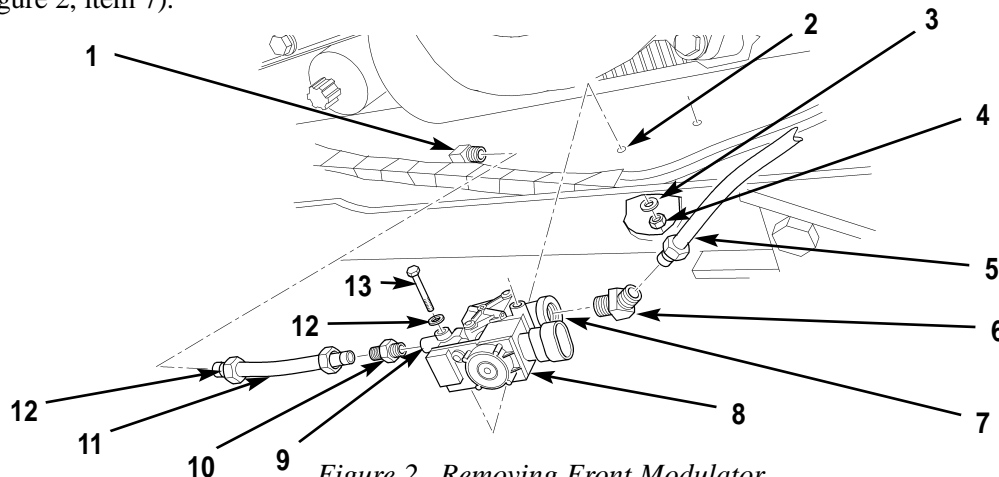

Figure 2. Removing Front Modulator.
2. Loosen nut (figure 2, item 12) on elbow (figure 2, item 1), and disconnect tube (figure 2, item 11) from elbow (figure 2, item 1) on frame rail (figure 2, item 2).
3. Remove two locknuts (figure 2, item 4), washers (figure 2, item 3), bolts (figure 2, item 14), washers (figure 2, item 13), and front modulator (figure 2, item 8) from frame rail (figure 2, item 2). Discard locknuts (figure 2, item 4).
4. Remove tube (figure 2, item 11) from adapter (figure 2, item 10), and remove adapter (figure 2, item 10) from front modulator outlet (figure 2, item 9). Remove elbow (figure 2, item 6) from front modulator inlet (figure 2, item 7).